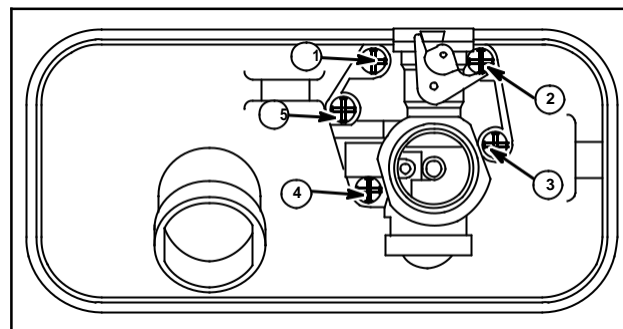

Fig. 9
Screw Tightening Sequence (Fig. 9)
1. During routine service and to assure that the Pulsa-Prime carburetor diaphragm seals properly, it is recommended that the carburetor mounting screws be tightened in the following sequence, Fig. 9. While tightening screws, be sure that throttle shaft is held in wide open position.